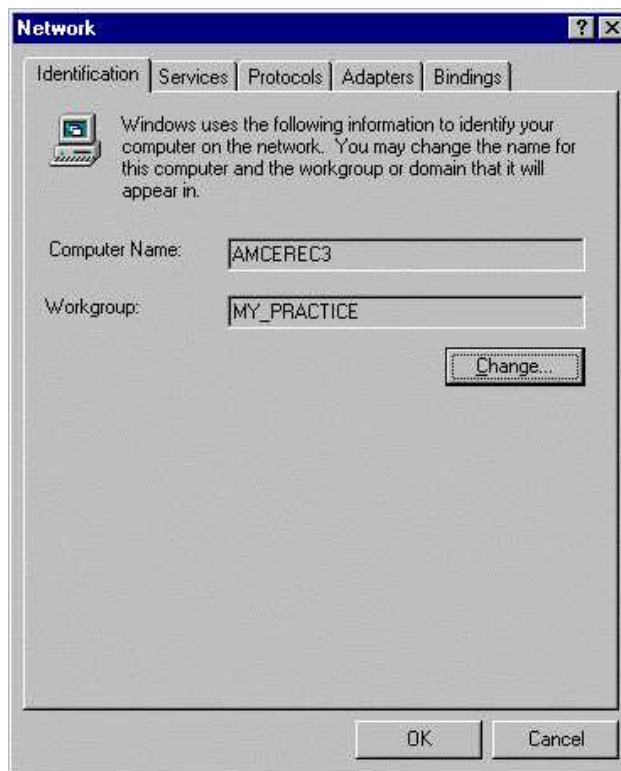

Fig. 8-31
- In the "Network" dialog box, click the "Identification" tab (Fig. 8-31).